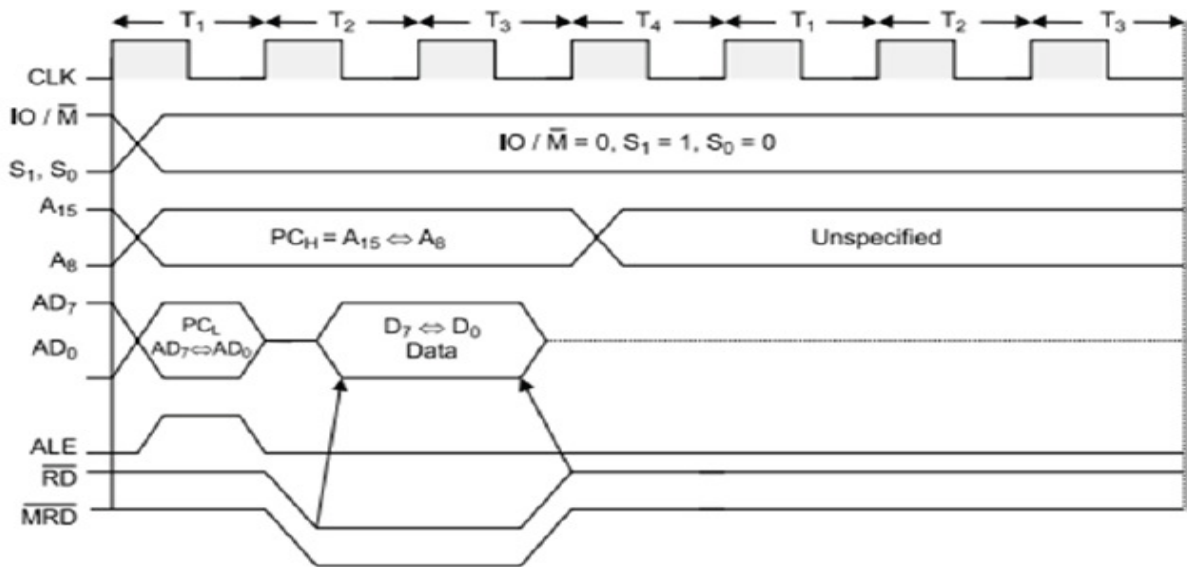

Fig 11.Memory read timing diagram
- During T1, A8-A15 contains higher byte of address. At the same time ALE is high. Therefore Lower byte of address A0-A7 is selected from AD0-AD7 as shown in fig 11.